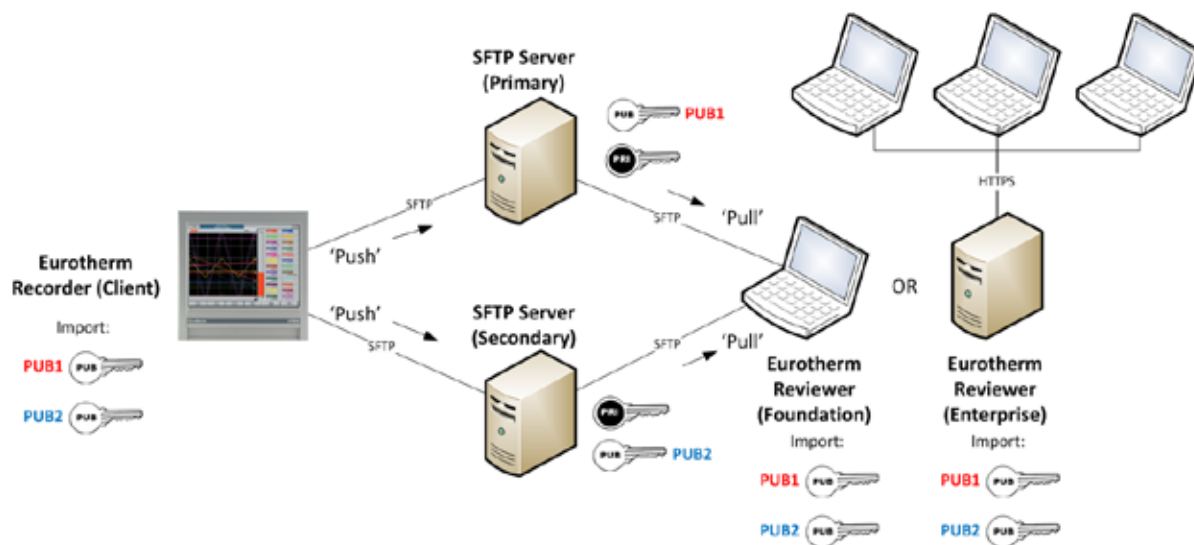

Figure 4.8b Secure FTP - Recorder as a Client
There are various system configurations, *Figure 4.8b Secure FTP - Recorder as a Client* displays a 6000 recorder as a client, connecting to two servers that are both running an SFTP server application.
- Export, or request a copy of the servers current SFTP public key. If connecting to multiple servers, the public key will be required from each server. (See *PUB1* and *PUB2* public keys, in "Figure 4.8b Secure FTP - Recorder as a Client" on page 249)
The Import Public key menu enables the user to import a SFTP Public key from an SFTP configured server. An example could be a recorder connected to and uploading, transferring data securely to an archive 'primary' server (or multiple servers), see "Figure 4.8b Secure FTP - Recorder as a Client" on page 249.